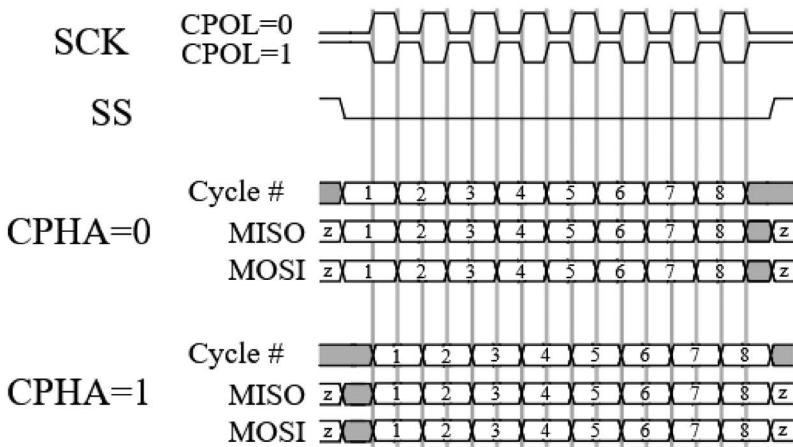

FIGURE 14.9 SPI timing diagram.
The purpose of the “SCLK” signal provided by the “master” is to keep the “master” and “slave” synchronous. There are two SPI settings related to the “SCLK” signal: CPOL (Clock Polarity) and CPHA (Clock Phase). CPOL represents the state of the initial level of the “SCLK” signal. Value 0 indicates the initial state is low, and value 1 indicates the initial level is high. CPHA represents at which clock edge the data is sampled. Value 0 indicates the data is sampled at the first clock change edge, and value 1 indicates the data is sampled at the second clock change edge. So there are four options according to the combinations of CPOL and CPHA: ①CPOL=0, CPHA=0; ②CPOL=0, CPHA=1; ③CPOL=1, CPHA=0; and ④CPOL=1, CPHA=1, as shown in Figure 14.9.